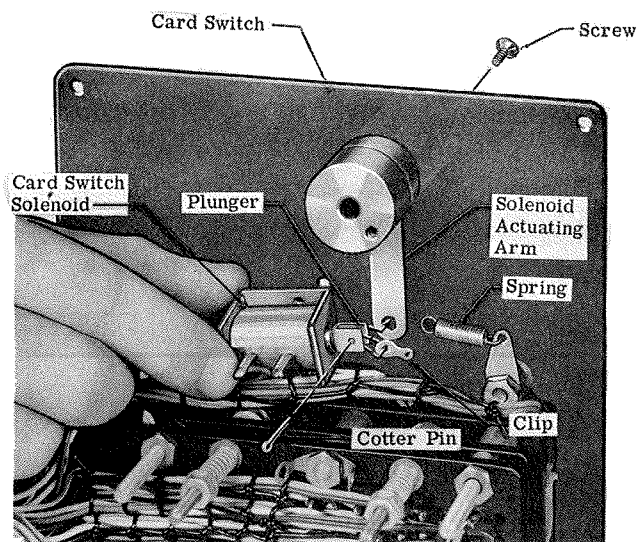

Figure 19 - Replacing Card Switch Solenoid
2. Insert two .125 inch diameter (1/8 inch diameter) pins or drill shanks into the switch plate holes A-1 and L-1 to retain the code card. (See figure 19).
plate holes when the micro switch actuates (an audible CLICK will be heard). If adjustment is necessary, turn the adjustment screw. (See figure 19) until alignment is correct.